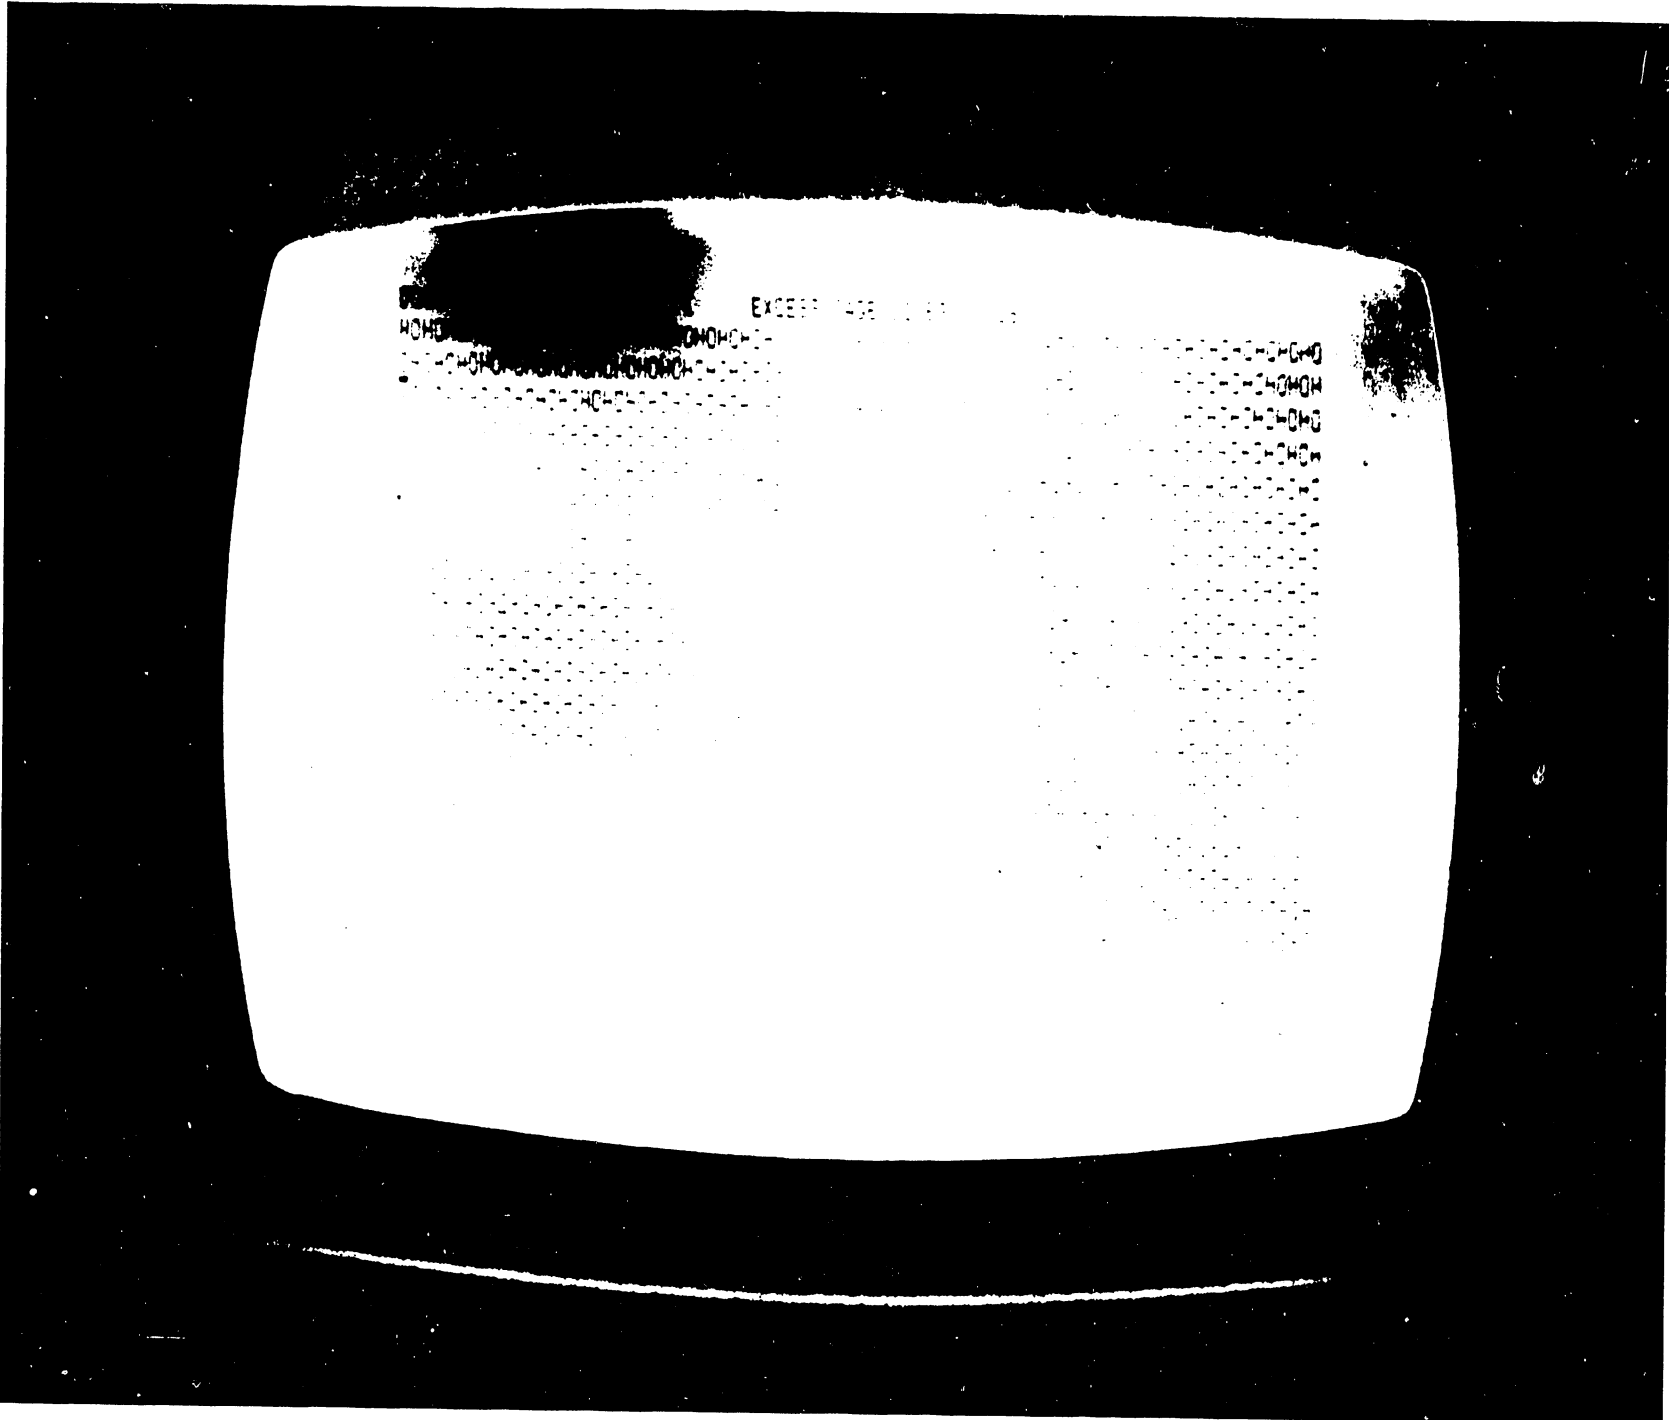

FIGURE 3-3 FULL SCREEN OF HO'S
4. Create a document to display a full screen (80 by 24) filled with alternating characters "HO". (See Figure 3-3.)